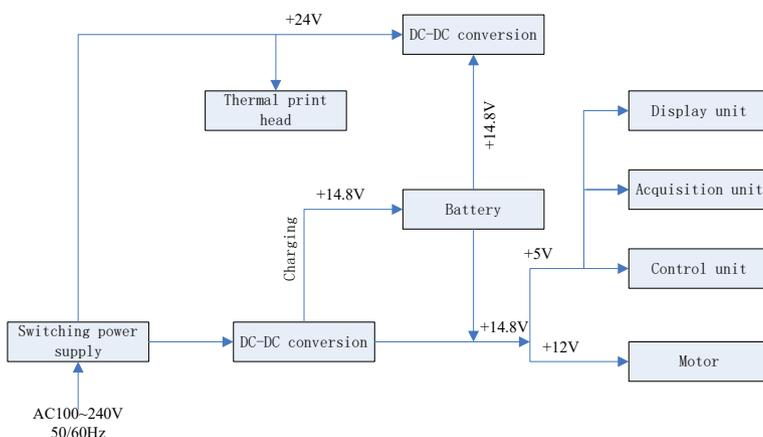

Figure4-1 Block diagram of power principle
##### (2) Principle block diagram is shown in Figure4-1.